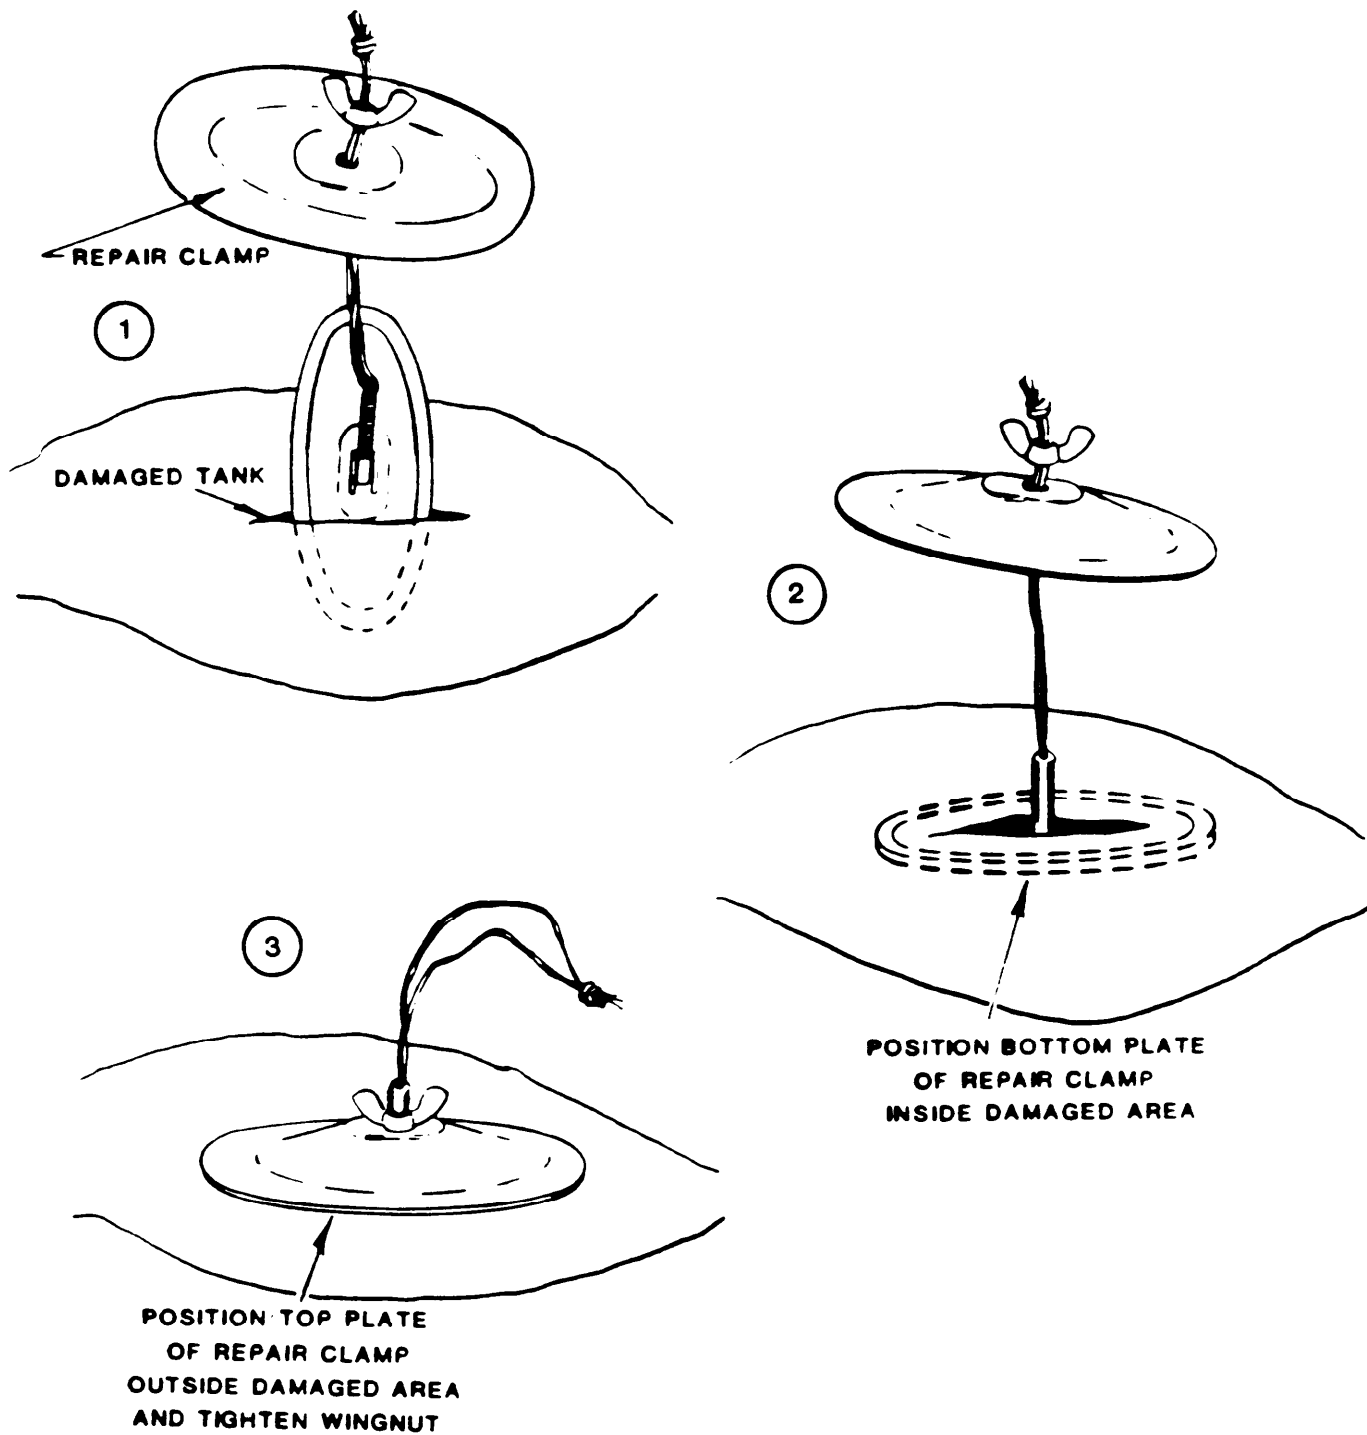

Figure 4-1. Repairing Tank Envelope with Sealing Clamp
(1) Insert small end of plug into puncture. Turn clockwise until leak stops or slows.
(2) Remove plug and install clamp when operation permits.
b. Repairs with Clamps. See figure 4-1.
(1) Select proper size clamp using these guidelines for tears: